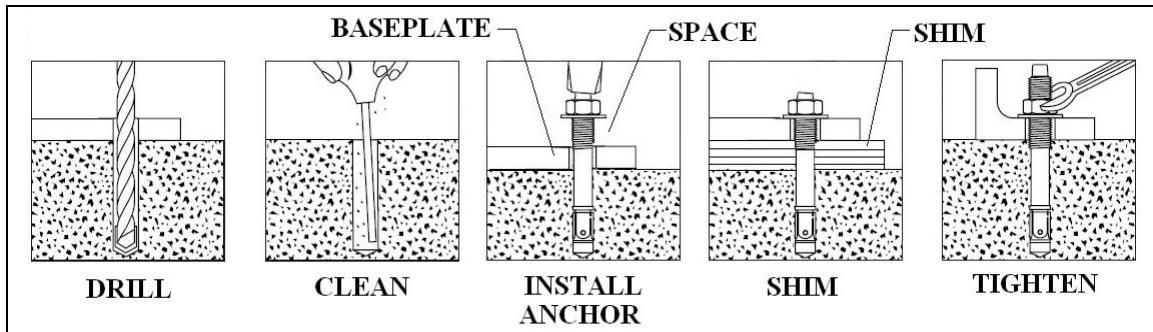

Figure 12. Anchor installation
1. Refer to Figure 12 while reading through these instructions.